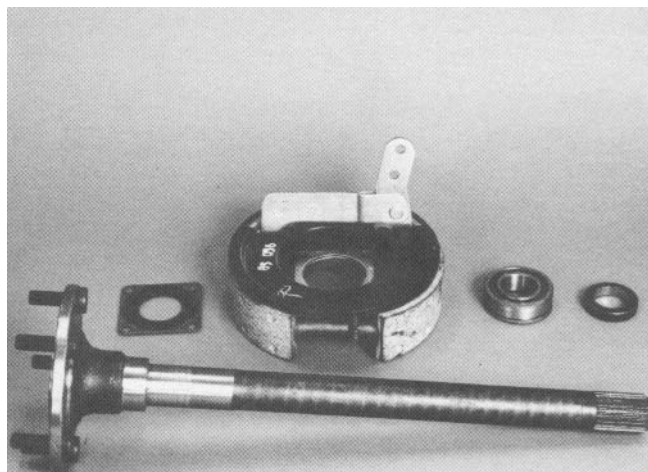

Figure 12
10. Inspect all components for wear and damage (Fig. 12). Replace the hub and shaft if the seal has grooved the axle surface more than 1/64 inch (0.4 mm).